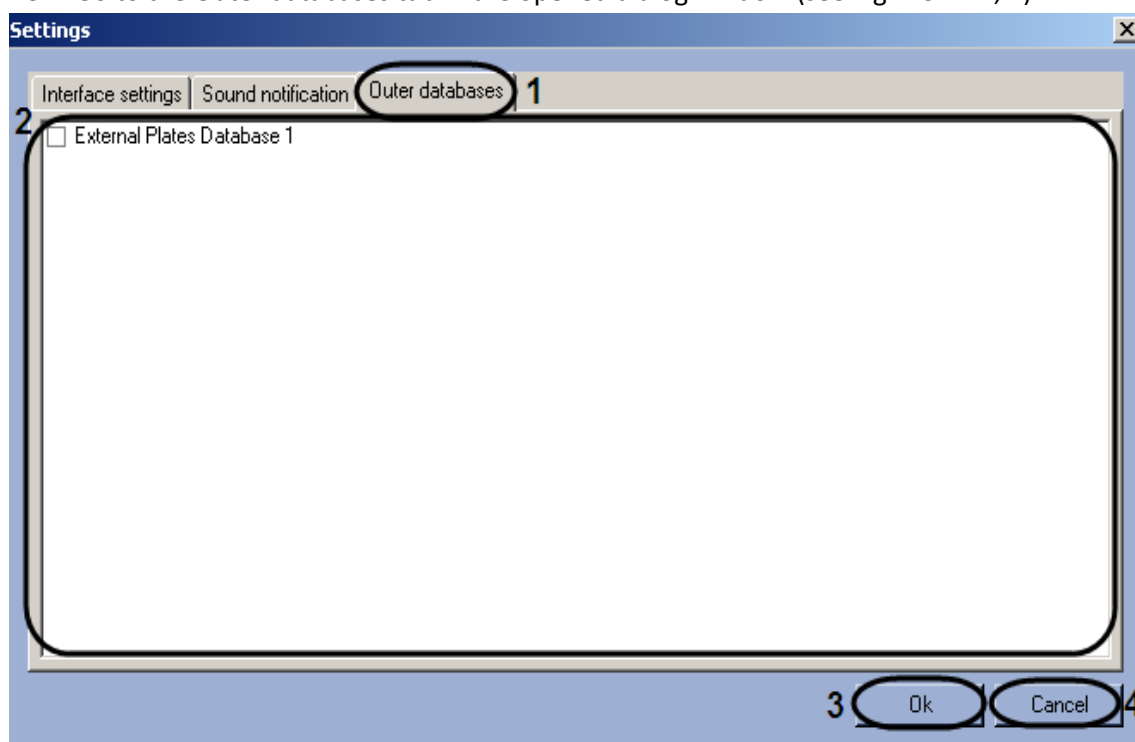

Fig. 7.9—12 Selecting the external plate's databases as the Active tracking database
3. Go to the Outer databases tab in the opened dialog window (see Fig. 7.9—12, 1).
4. Select check boxes opposite the external plates databases that should be used as the Active tracking databases (see Fig. 7.9—12, 2).
5. Click «OK» to save the changes and close the Settings dialog window (see Fig. 7.9—12, 3).